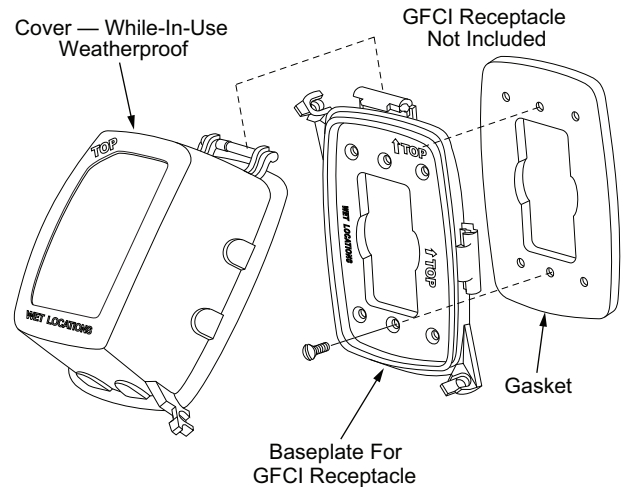

Fig. 36 — Weatherproof Cover Installation
4. Mount the weatherproof cover to the backing plate as shown in Fig. 36.